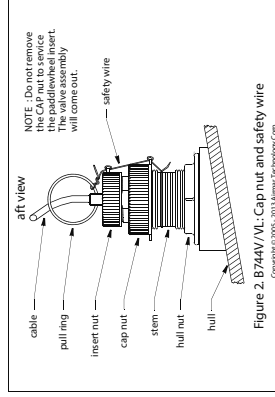

Figure 2. B744V/VL Cap nut and safety wire
Being sure the valve assembly is seated firmly within the housing, carefully screw the CAP nut in place (Figure 2). Hand-tighten only. Do not over tighten.
3. Attach the safety wire to prevent the insert from backing out in the unlikely event that the cap nut and/or insert nut fails or is screwed on incorrectly. Wrap one end of the safety wire tightly around the stem of the housing and twist it together with the long end (Figure 2). Keeping the wire taut throughout, lead the wire straight up and through one eye in the CAP nut. Thread the wire through the eye a second time. Lead the wire in a counterclockwise direction and thread it through the eye in the INSERT nut. Thread the wire through that eye a second time. Loop the wire through the pull ring and twist the wire securely to itself.
2. Remove the paddlewheel insert from the housing by removing the safety wire from the pull ring and the INSERT nut (Figure 2). Unscrew the INSERT nut. Do not remove the CAP nut, as the valve assembly will come out.
5. Reattach the safety wire (Figure 2).
2. Remove the safety wire and unscrew the CAP nut (Figure 2). With the blanking plug ready in one hand, remove the paddlewheel insert valve assembly in the other hand by grasping the pull ring. The valve assembly is now ready to be inserted into the boat. Temporarily secure it with the safety wire. Do not leave the boat in the water unattended. This is not a watertight or secure seal.
8. Reattach the safety wire (Figure 2).